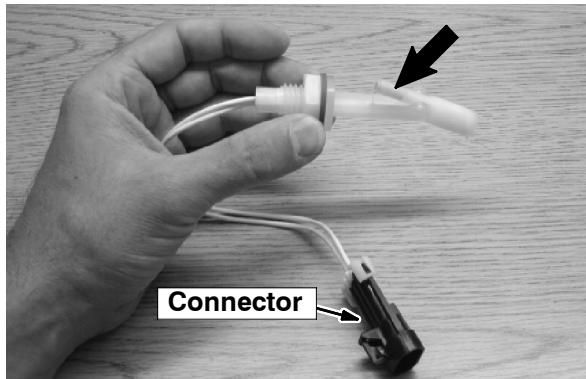

FIG. 3
8. Install the level sensor (1) wires into the connector included with the sensor. Refer to Fig. 3.
10. Position the level sensor (1) inside the recovery tank so the float portion of the sensor is pointed up at 12:00. Refer to Fig. 3.